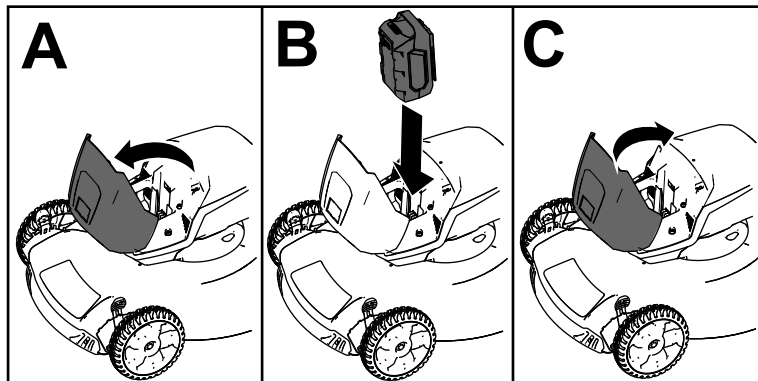

Figure 8
2. Lift up the battery-compartment lid (A of Figure 8).
3. Line up the cavity in the battery pack with the tongue on the machine and slide the battery pack into the compartment until it locks into place (B of Figure 8).
4. Close the battery-compartment lid (C of Figure 8).